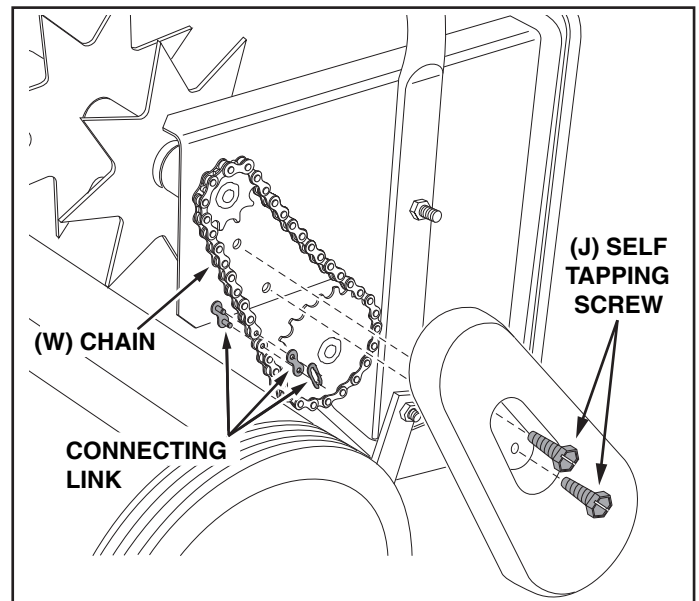

FIGURE 23
43. Assemble the chain onto the two sprockets on the left side of the hopper. Fasten the ends of the chain together using the connecting link. See figure 23.
44. Place the chain cover over the chain and fasten it to the hopper end plate using two self tapping screws. See figure 23.